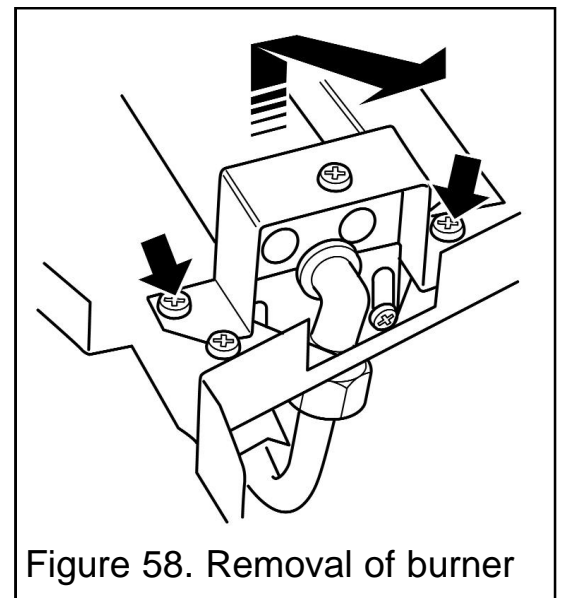

Figure 58. Removal of burner
(See figure 58).
3. Remove the two screws from the burner clamping plate (See figure 58)